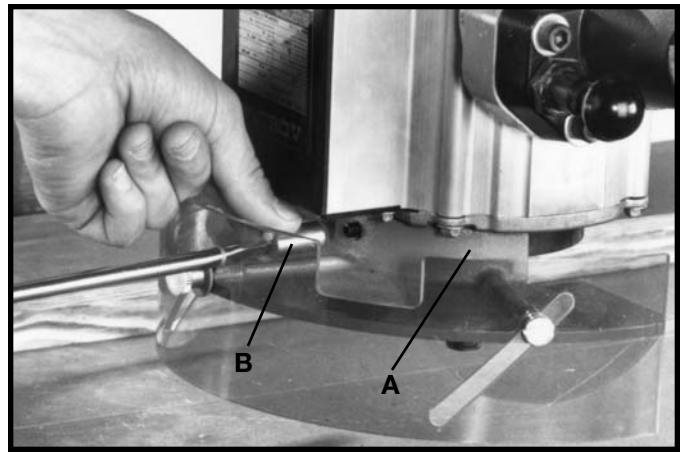

Fig. 60
3. Move motor so that the arbor is in the down position, as shown in Fig. 60.
4. Place guard (A) Fig. 60, on motor with stud on motor inserted through hole in guard. Thread special nut (B) on motor stud and fasten with screwdriver, as shown in Fig. 60.